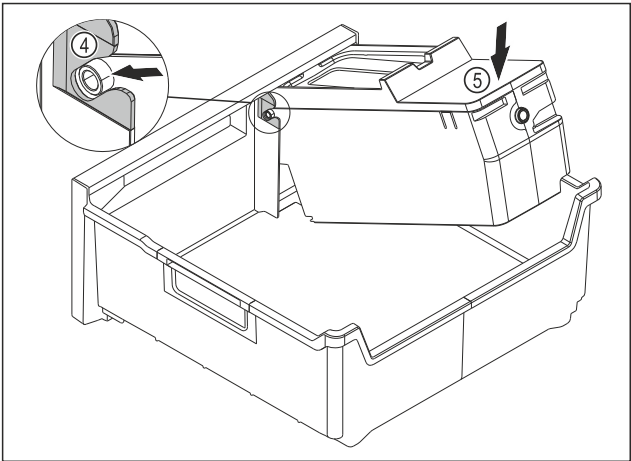

Fig. 124
- ▶ Installing the EasyTwist-Ice body: Push the axes for the EasyTwist-Ice body into the guides Fig. 124 (4).
- ▶ Press the EasyTwist-Ice body Fig. 124 (5) down at the back.